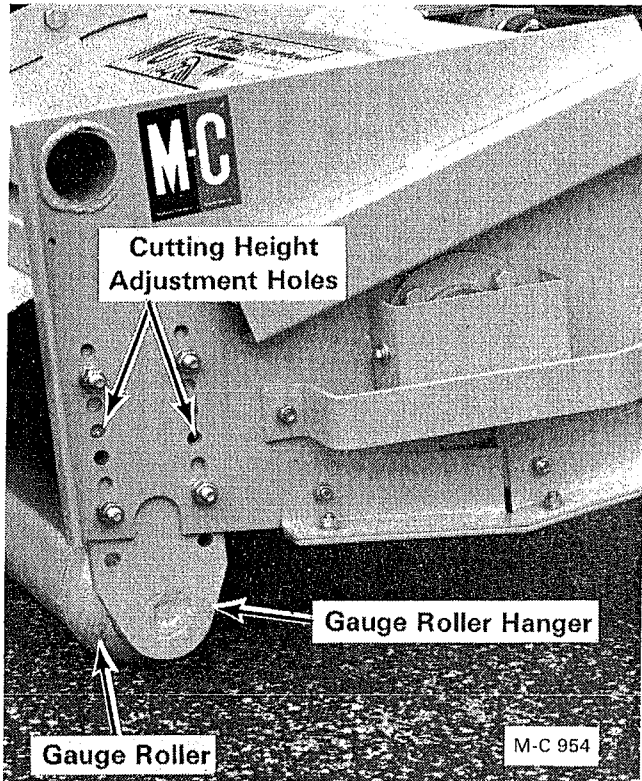

Figure 37 - Gauge Roller Brg. - Above S/N 46649
2. Remove the four 1/2" capscrews on each side of the mower that secure the gauge roller hangers to the mower side plates, see Figure 37. Roll the gauge roller out from under the mower.